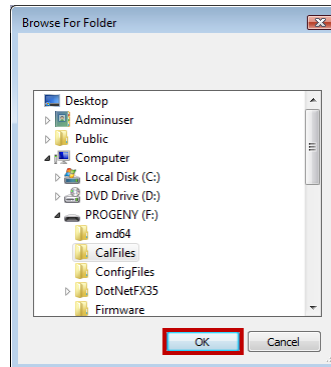

Figure 10: Select the source folder for the calibration file
- The dialog box shown on Figure 10 will appear to allow selection of the calibration file(s) source folder. The initial selection will point to the source folder on the current USB flash drive. Navigate to the calibration file source folder if needed and click on the 'OK' button to continue.